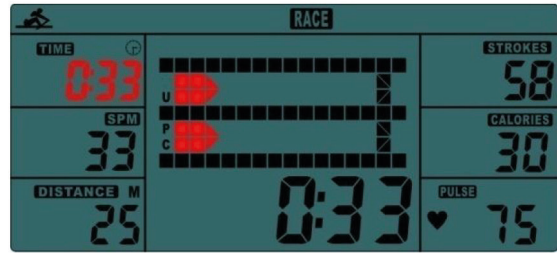

Fig. 6
*STOP will disappear. USER(U) and PC will display in the matrix (Fig.6).*